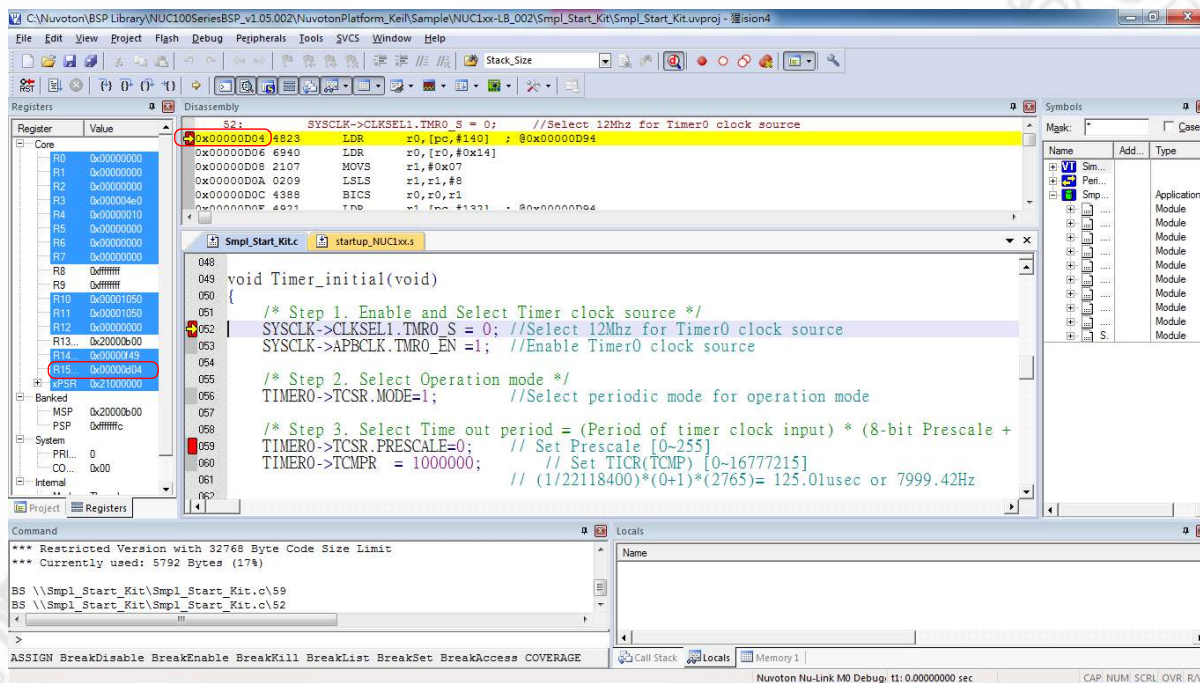

Figure 3-1 Setting Breakpoints in Keil RVMDK Debug Mode
In Debug mode, the user can add breakpoints in the code for debugging. During the real-time simulation of the Nu-Link Adapter, the chip simulation will be stopped at a specific breakpoint. Figure 3-1 shows the breakpoint settings in Keil RVMDK Debug mode. The red labels on lines 052 and 059 indicate the breakpoints inserted; the yellow arrow refers to the code to be executed next and shows the register value of Program Counter (PC) (i.e. “R15(PC)=0x0000D04” in the **Registers** pane in Figure 3-1).